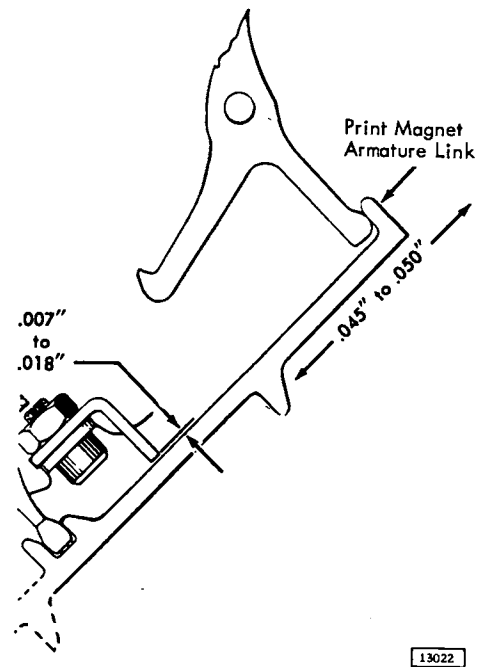

Figure 4-3. Print Magnet Link
3. There should be a clearance of 0.007" to 0.018" between the top guide bar nearest the armature knockoff lever and the armature link (Figure 4-3).